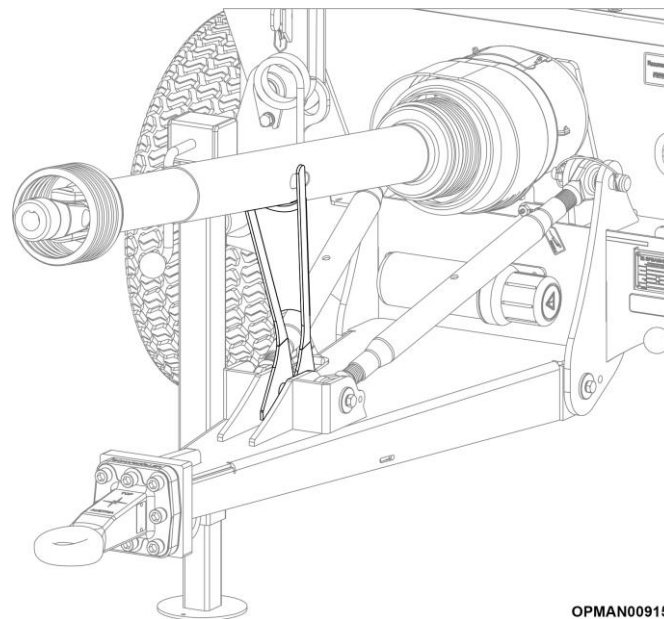

Figure 4.19 – PTO Support Bracket
- 4.5.1.7 If the driveshaft is not destined to be removed completely, utilise the machines PTO support bracket to rest the PTO driveshaft on; see Figure 4.19 (trailed version only). This will ensure that the driveshaft doesn't get contaminated with dirt.